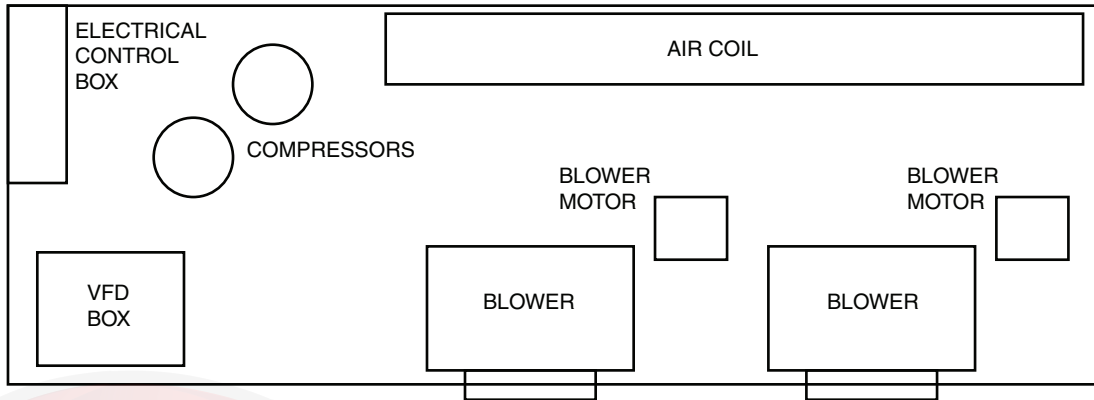

Fig. 1 — Field Installed VFD Shipping Location, 50HQP Units
Horizontal units are designed for indoor installation only, using hanging brackets. See Fig. 1 for the field-installed VFD shipping location. See Fig. 2 and 3 for overall unit dimensions. Be sure to allow adequate space around the unit for installation and servicing. See Fig. 7 for service clearance requirements.
11. 50HQP Only - For units with the SAV™ or single speed VFD option, locate the VFD (ships in control box section or on the pallet with the unit). See Fig. 1 for VFD shipping box location. If VFD is not found, contact your Carrier sales representative.